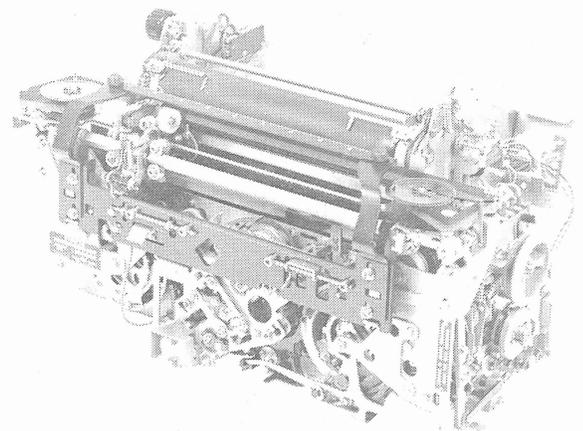

Figure 1 - 37 Typing Unit
1.01 This section provides lubrication procedures for the standard 37 typing unit (Figure 1), and the 37 wide platen typing unit (Figure 2). For similar information for the early design 37 typing unit, with exception to wide platen typing unit, refer to Section 574-320-701.